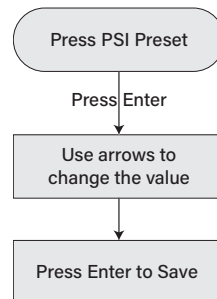

Figure 14 - Change PSI Setpoint using PSI Preset.
2. Via the *PSI Preset* (See in Figure 14).